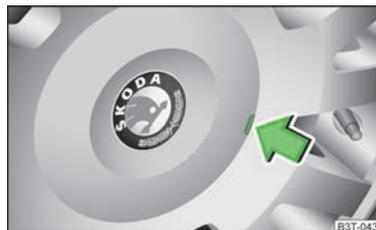

Fig. 147
- Carefully remove the wheel trim cap using the wire clamp from the vehicle tool kit » Fig. 147. ■